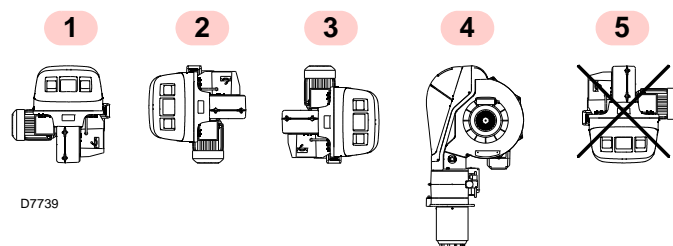

Fig. 8
- The burner is set up to operate only in positions 1, 2, 3 and 4 (Fig. 8).